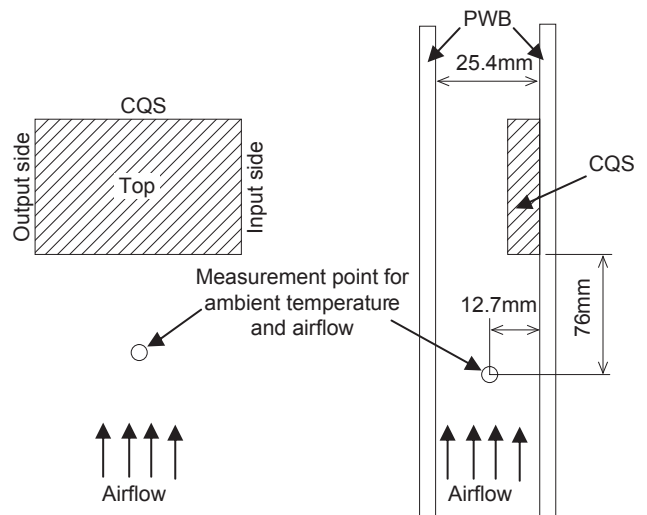

Fig.8.10 Measuring method
■ Shown the thermal curve with measuring as shown in Fig.8.10.